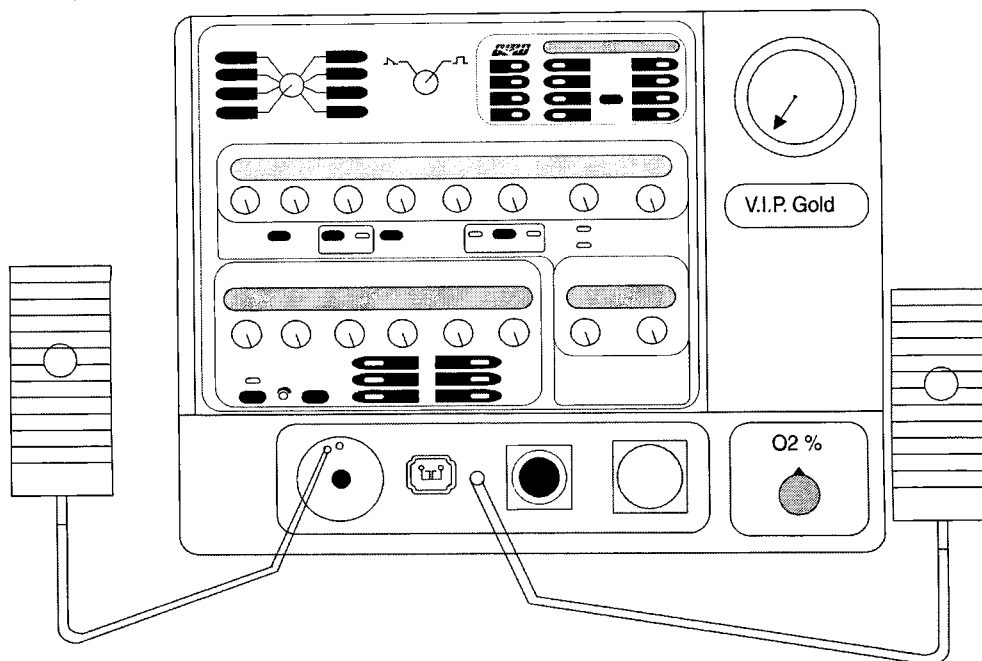

Figure 5.12
- 34.1 Turn the ventilator ON and **return to Standard settings** (see step 36.0) except for set PEEP/CPAP to zero. Take off the Exhalation Valve Body. Connect a flowtube to the Jet Pump Port. (See figure 5.12).